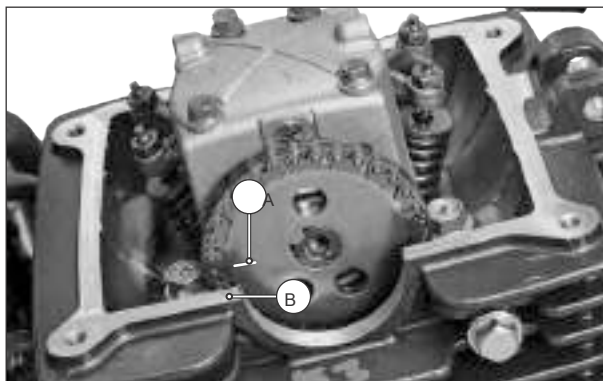

Fig. 3.77
- Assemble the sprocket camshaft along with the cam chain in the camshaft complete while aligning the sprocket camshaft mark (A) with the cylinder head surface (B) towards exhaust side. (Fig. 3.77)